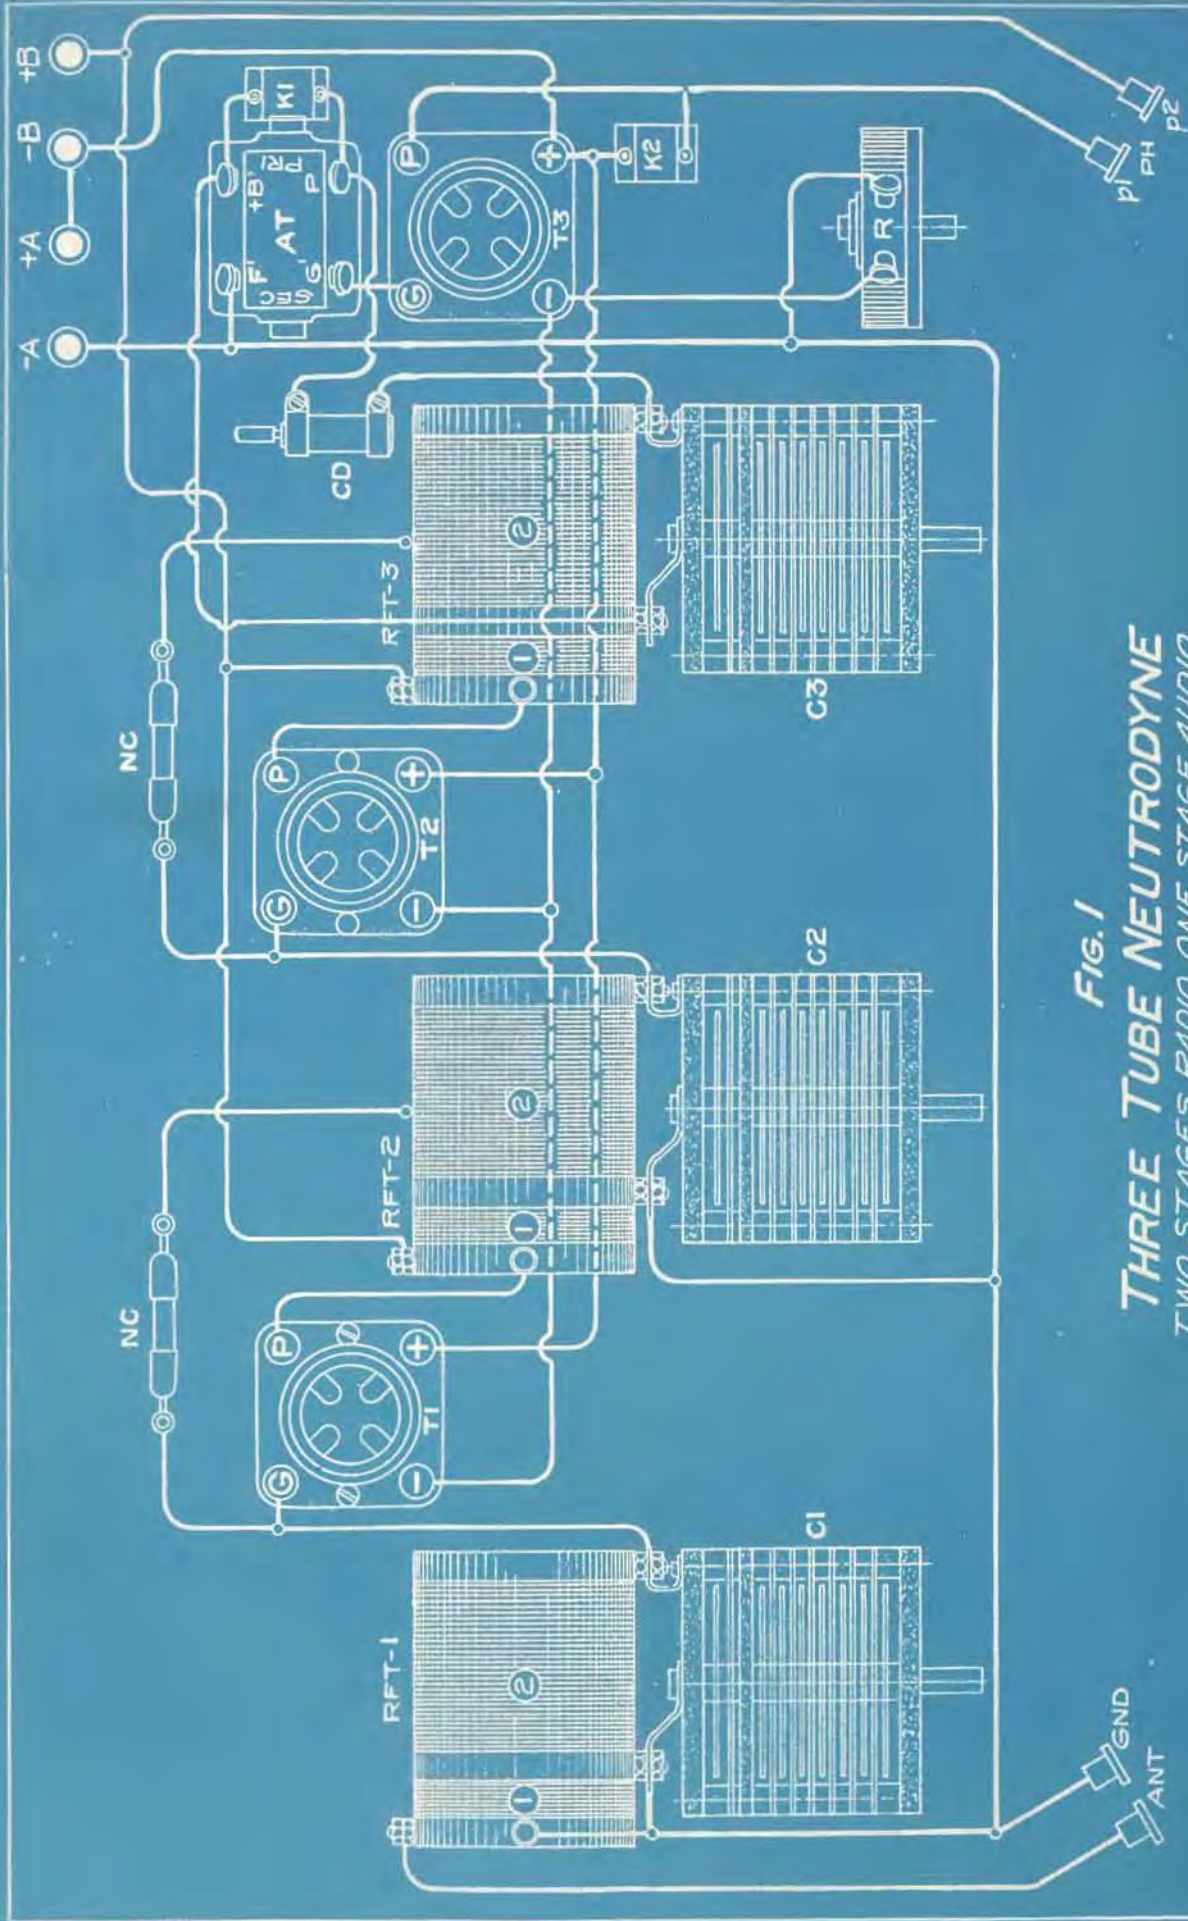
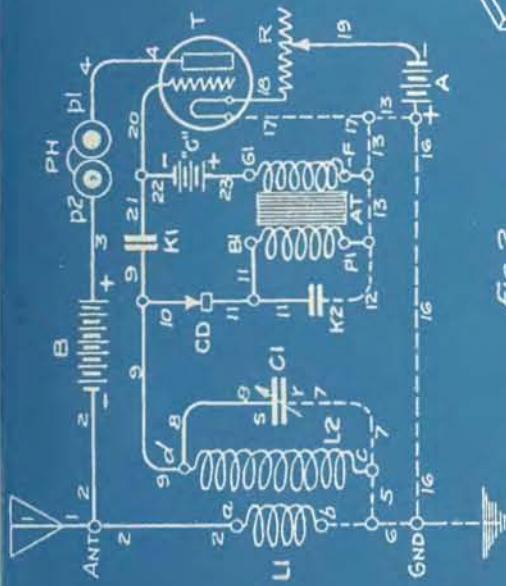
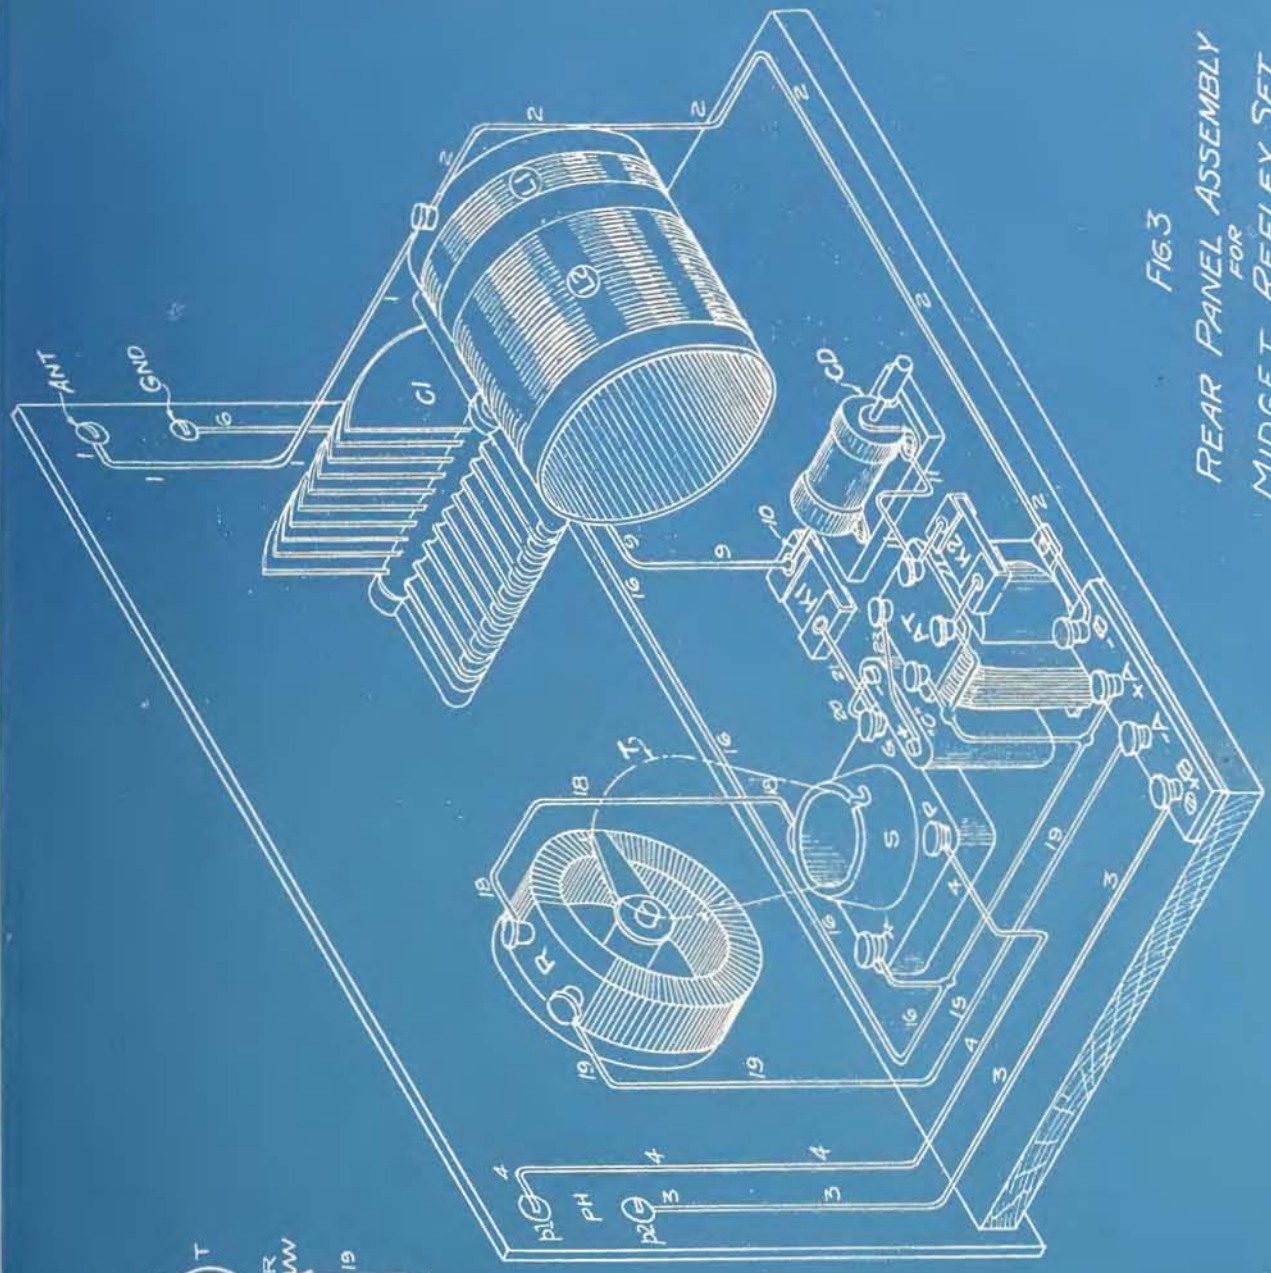

FIG. 1
FIG. 2
FIG. 3
Fig. 1 is a picture diagram of the three tube neutrodyne, where it will be seen that we have two radio frequency stages, a crystal detector, and one audio stage. This will insure very good distance reception and loud speaker volume on all but the more distant stations. The crystal avoids the noises of the detector tube, thus giving a very pure natural tone that is unapproached by the standard five tube set. Further, when properly adjusted it will not squeal nor howl under any tuning conditions.
In Fig. 1 the two radio frequency tubes are at (T1) and (T2), the crystal detector is at (CD), and the audio tube at (T3). All tube filaments are controlled by the single rheostat (R), the resistance of which depends upon the type of tubes used, and as this carries the current for all tubes the resistance must be somewhat lower than when a single rheostat is used for each tube. It must be borne in mind that all of the tubes are amplifiers such as the UV-201A, C-301A, UV-199 or C-299 and that soft detector tubes will not give the necessary amplification.
FIG. 1 shows the simplicity of this circuit where the only tuning control is the variable condenser (C1). This is a 23 plate (0.0005 mf) vernier condenser of the standard type. The fixed coupler (L1-L2) not only acts as a tuning inductance but also as a radio frequency transformer in which the coil (L1) is the primary and coil (L2) is the secondary. Here we have a part which performs two distinct functions in the circuit and saves us from \$3.00 to \$5.00 in the construction of the set. The fixed coupler is attached to the variable condenser (C1)
by means of the sheet brass brackets (7) and (8). For those used to reading electrical diagrams, the functioning of the circuit is clearly shown by the conventional diagram of Fig. 2, and as both Figs. 1 and 2 have the same lettering, the relation is easily followed.
By examining Fig. 2 we see that the primary (L1) of the coupler is of the aperiodic type and carries both the impulses from the aerial and the amplified plate current. It is necessary to tune only the secondary (L2) by the variable condenser (C1). It will be seen that we tune both the grid and plate currents simultaneously by means of a single condenser. This arrangement eliminates the necessity of the two independent condensers used in the "99" Reflex and attains exactly the same results with less complication. The weak impulses from the aerial induce currents in the secondary (L2) which act on the grid of the tube through the stopping condenser (K1). Amplification takes place in the tube and the amplified plate current returns through the leads (2-2) to the primary coil (L1). The plate current now induces stronger currents in the secondary (L2) which augment those already received from the aerial, so had we have the amplified current at radio frequency, which acts on the primary (B-P) of the audio transformer (AT).
TO ELIMINATE body capacity, the stator or stationary plates of the condenser (C) should be connected to the terminal (d) and the grid line marked (9). The rotatable plates or rotor of the condenser should be connected to (c) and (5) as shown. This is important, and on the diagram Fig. 2 the condenser stator is indicated by (S) while the rotor is shown by (r).
In Fig. 2 all of the grounded connections or parts of the circuit formed by the metal cabinet are shown by dotted lines, and it will be seen that this grounding arrangement does away with many wires. For sets to be built on a production basis this is a very good scheme, as assembly is simplified and the cost of labor much reduced.
Fig. 3 is an isometric view of the assembly showing the relative arrangement of the parts when viewed from the rear of the panel. All parts are lettered and numbered to correspond with the lettering and numbering of the parts and wires in the two diagrams. As several of the wires are concealed in the isometric view, it is a good plan to use the diagram in Fig. 1 when making the actual connections and in laying out the wiring.
ALL THREE units (RFT-1), (RFT-2) and (RFT-3) are standard air core radio frequency transformers commonly known as standard "Neutrodyne Transformers," and it is far better to buy these transformers ready made than to attempt making them at home. Unless properly made, such transformers will greatly reduce the effectiveness of the circuit and cause trouble in tuning. In the diagram of Fig. 1, the transformers are shown laid flat down in a horizontal position so that the connections can be more easily seen, but actually they are tilted up at an angle of about 60 degrees with the horizontal so that there will be no coupling between the adjacent stages. It is of the greatest importance that we avoid having the magnetic flux from one transformer feedback into the following transformer, hence, the arrangement must be made as in Fig. 2 where the transformers are shown tilted up at an angle of 60 degrees with the baseboard.
As shown by Fig. 3, the center to center spacing between the transformers and condensers is 5 1/2", and the transformers should not be closer than this if maximum results are to be obtained. With this spacing we can get the apparatus on a 7x18" panel without difficulty but if we consider adding a second stage of audio in the future it would be better to use a 7x21" or 7x24" panel.
Returning to Fig. 1, we see the neutralizing condensers (NC) used for neutralizing the internal capacity of the tubes. At one end they are connected to the grids (G) of the tubes while at the other end a connection is made to an intermediate tap in the secondary of the transformers. By adjusting these condensers (NC) we can completely offset the internal capacity so that maximum amplification is attained. The neutralizing condensers (NC) should be purchased ready made, and as they can be obtained
TO produce the maximum range and volume, we will require a 90 volt "B" battery for supplying the plate current. This is connected between the (-B) and (+B) battery binding posts. The audio amplification will be made somewhat greater if we introduce a 4.5 volt "C" battery between the secondary transformer post (G') and the grid (G) of the tube (T3). Full details of this arrangement were shown on Data sheets JJ-9-25 and JJ-9-26 of the September RADIO AGE. The installation in Fig. 1 of data sheet JJ-9-26 shows the installation exactly as it would be made. Be sure that the negative (-) post is connected to the (G) post of the socket.
After the circuit has been wired up according to the diagram in Fig. 1, with the apparatus located as in the isometric view of Fig. 3, we can connect the batteries, insert the tubes, and then make the neutralizing adjustments. With the tubes lighted up to normal brilliancy we can tune in some local station by means of the variable condensers until we obtain maximum volume. Now note the position of the dials on the condensers, and after loosening the dial, set the screws and turn them until the same number on each dial comes exactly opposite to its stationary pointer. This will save much time in tuning, as we are now able to get all three condensers in exact agreement by turning to the same number on each dial.